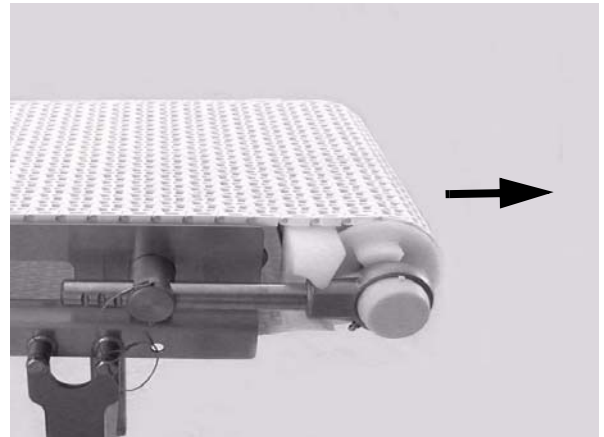

Figure 59
3. Continue extending the tension end until the belt is sufficiently tight (**Figure 59**). Reference figure 32.